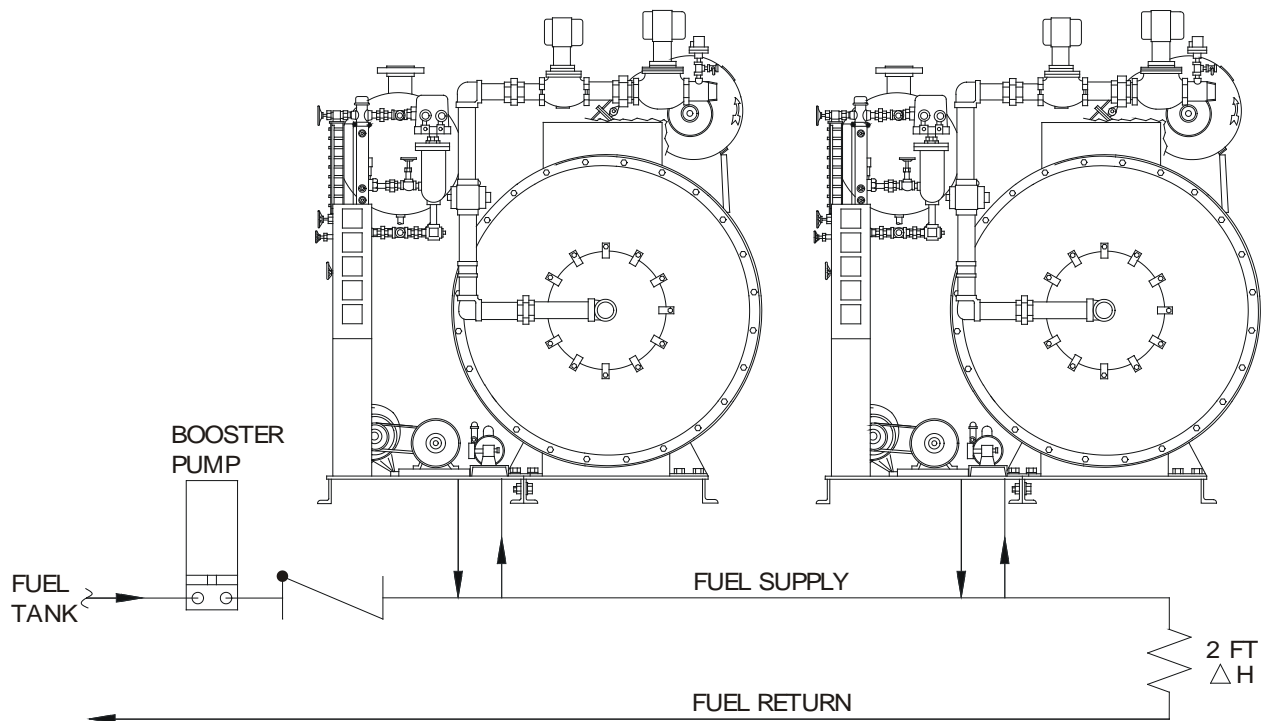

Figure 22. "Closed" Loop Fuel Oil Piping Arrangement
10.2.10.1 Figure 22 illustrates the use of a "closed" loop in a multiple heater installation. A booster pump situated near the fuel tank draws fuel from the tank and forces it through a line leading to the boilers. The boiler fuel pump draws fuel from this line and returns what is not burned to the line that leads to the next boiler. A return line to the tank carries what fuel is not required to satisfy burning requirements. A fixed restriction at the remote end of the supply line, usually in the form of a U-shaped standpipe provides a positive head for the inlet of the boiler fuel pumps.